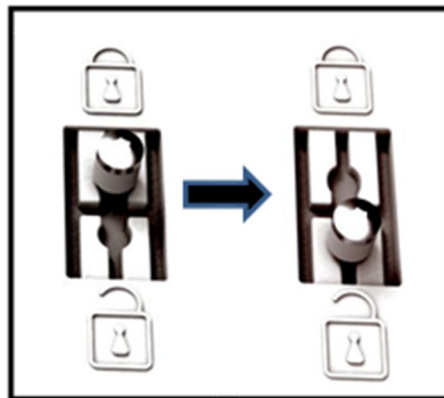

Figure 7
- Unlock the unit by sliding the lever to the unlocked position (see Figure 7).